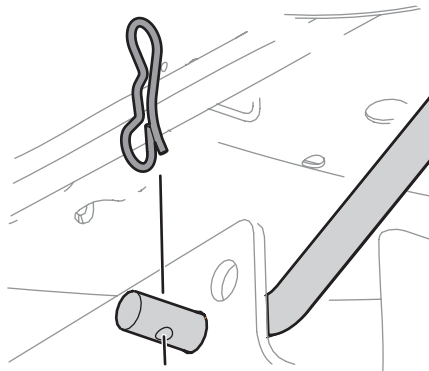

Figure 4-14
14. Pull the bow-tie pin out of the front deck lift rod securing it to the deck. See Figure 4-14. Slide the deck lift rod out of the front hanger bracket.